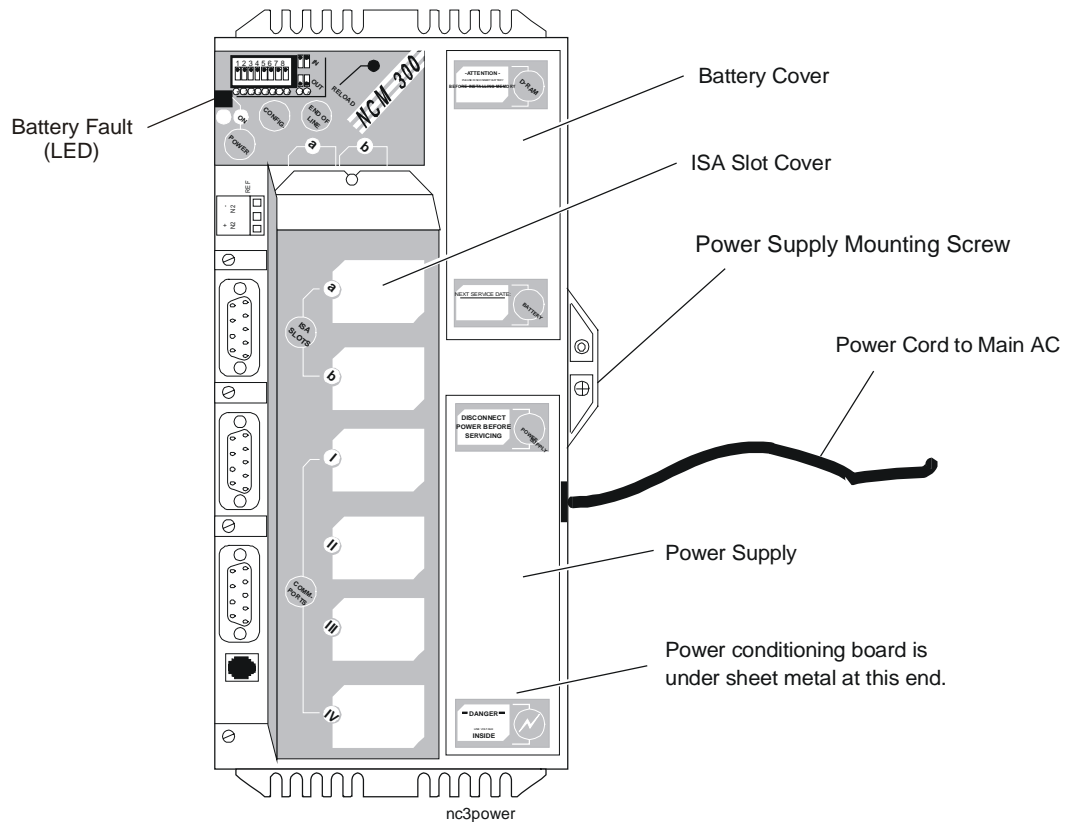
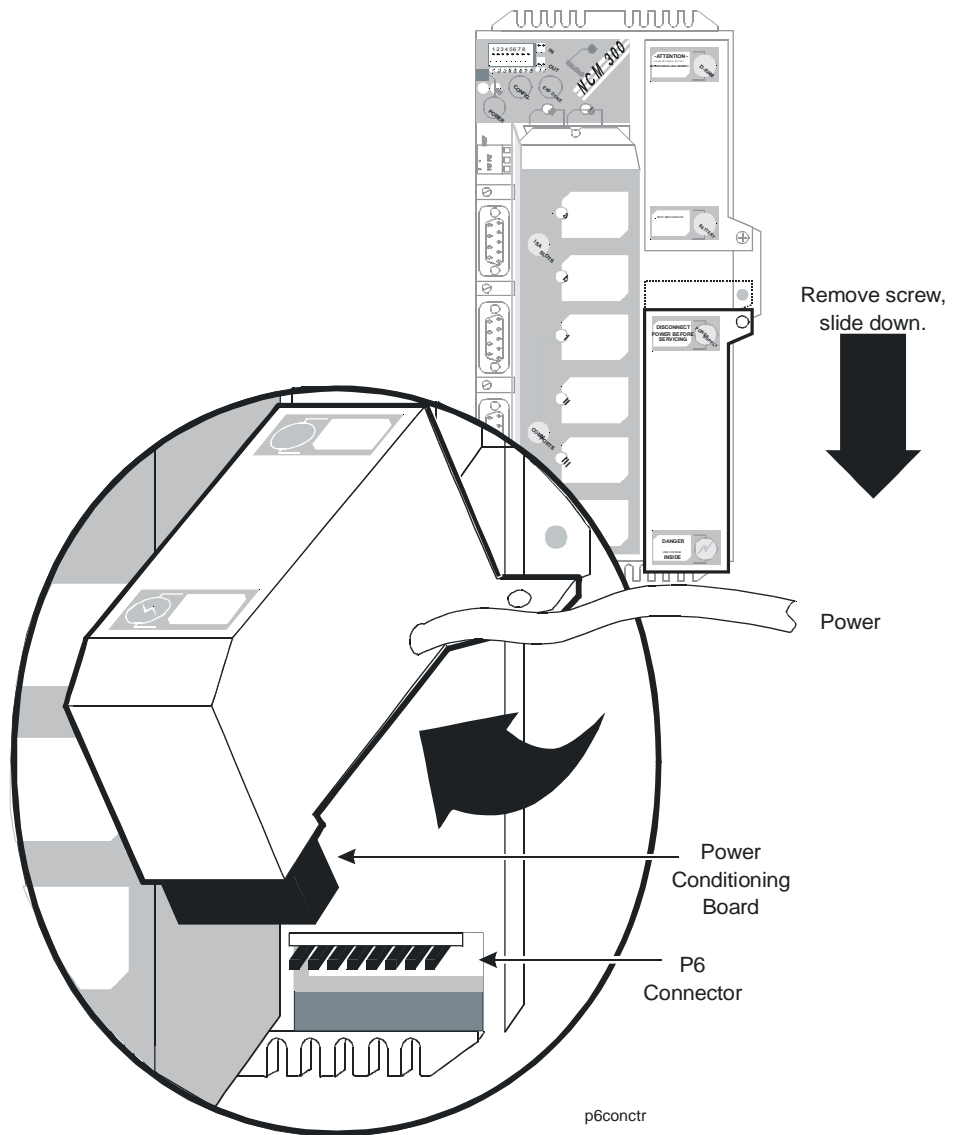

Figure 41: Location of Power Supply Components
Figure 42: P6 Connector and Power Conditioning Board
Figure 41 shows the location of components for removal and installation of the power supply. Figure 42 shows the power supply cover lifted to gain access to the P6 connector and power conditioning board.
5. Lift power supply up approximately one inch to gain access to the power conditioning board. See Figure 42.
1. Connect the power conditioning board to the P6 connector on the NCM board. See Figure 42.